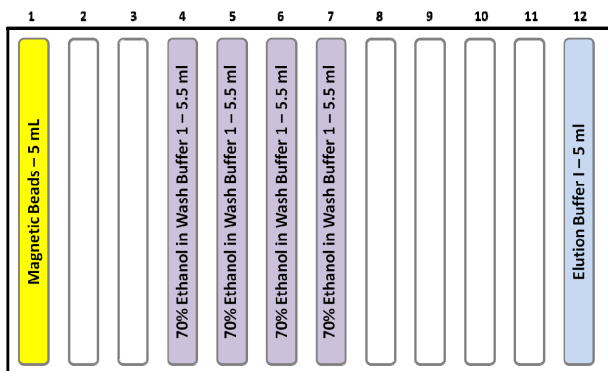

Figure 7. Magnetic Beads and Buffers for Purification.
2. Thoroughly shake the bottle with magnetic beads. Pipette 5 ml into column 1 of the V-Groove Reservoir (Figure 7).